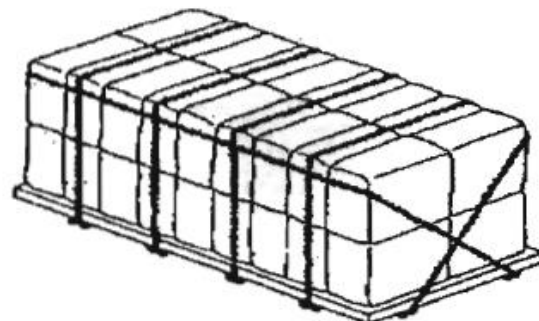

Figure 5
- (b) Two perimeter binders shall be applied to the top tier as prescribed in section "Vertical Bales in One Tier (1) & (2)", and not less than four crossbinders shall be uniformly spaced across the top of the load, **see figure 5**.
- (2) Multi-tiered loads with vertical and horizontal bales in the bottom tier and vertical bales in the top tier must be secured with two perimeter binders as prescribed in section "Vertical Bales - in One Tier (1) & (2)", applied to the top tier and not less than four cross binders uniformly spaced across the top of the load, **see figure 5**.